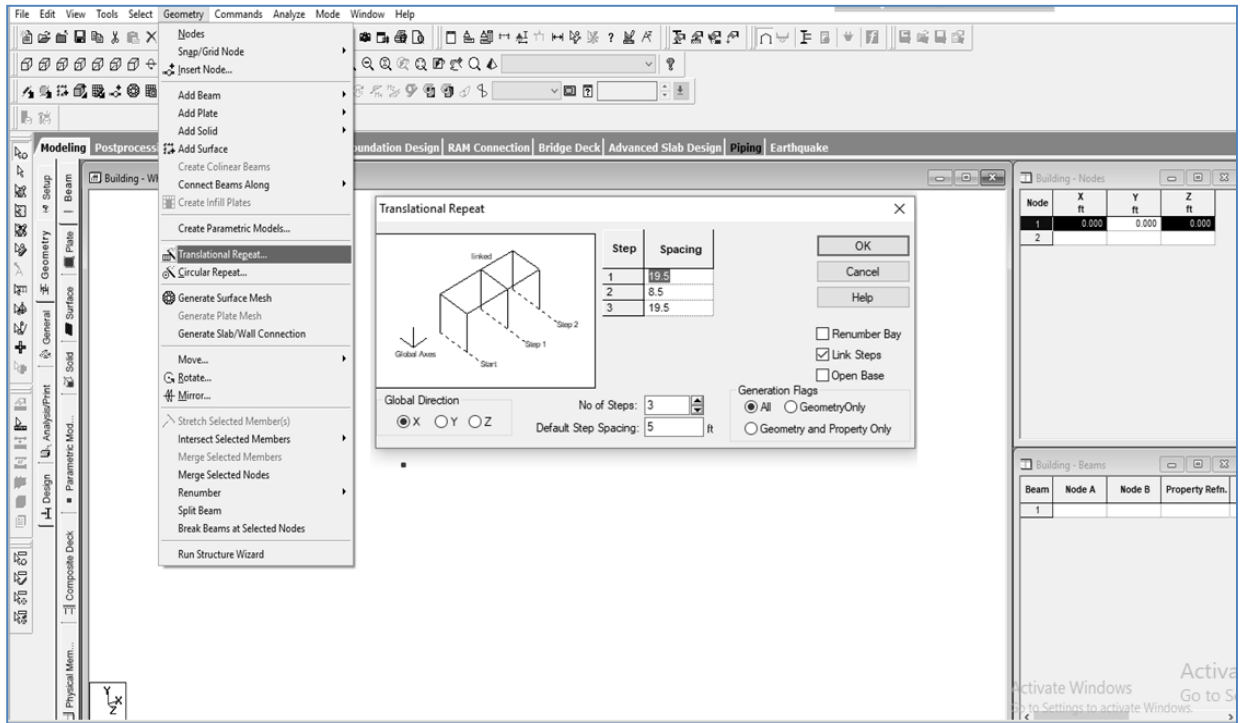

Fig: 5.2
1.2.1 Close the default Grid system and at the right side input your first node point coordinates as (X Y Z)=(0 0 0) (Figure: 5.2). After than select the node by using node cursor →Geometry →Translational Repeat →Select Global Direction = X → No of Steps = 3 → now write down the column spacing from your Column Layout Plan as (Step1 =19.5, Step2 =8.5, Step3 =19.5) →Link Steps →OK. (Figure: 5.2)